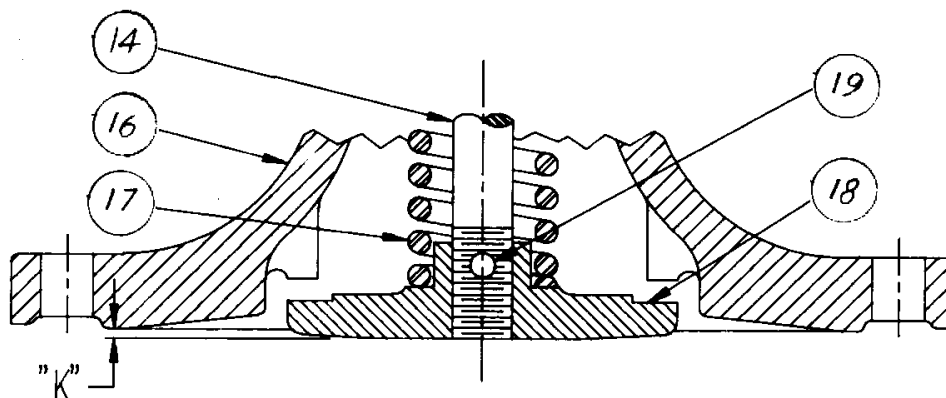

FIGURE 2
1. Drive out pin (19) from pressure plate (18) and screw out old stem.
2. Secure balance piston (11), disc (7) and disc holder (6) to the new stem (14) with stem nut (5).
3. Insert this assembly into its normal position from the top of the valve. Screw on the pressure plate (18) (omit main spring (17)).
4. With the disc in contact with the seat, adjust the pressure plate until dimension K is obtained. This dimension is supplied with each replacement stem, cast into the pressure plate and appears in Fig. 2.
6. Remove stem and pressure plate from valve. Drill and insert pin (19) to lock the adjustment. Grind off stem projection flush with bottom of pressure plate.